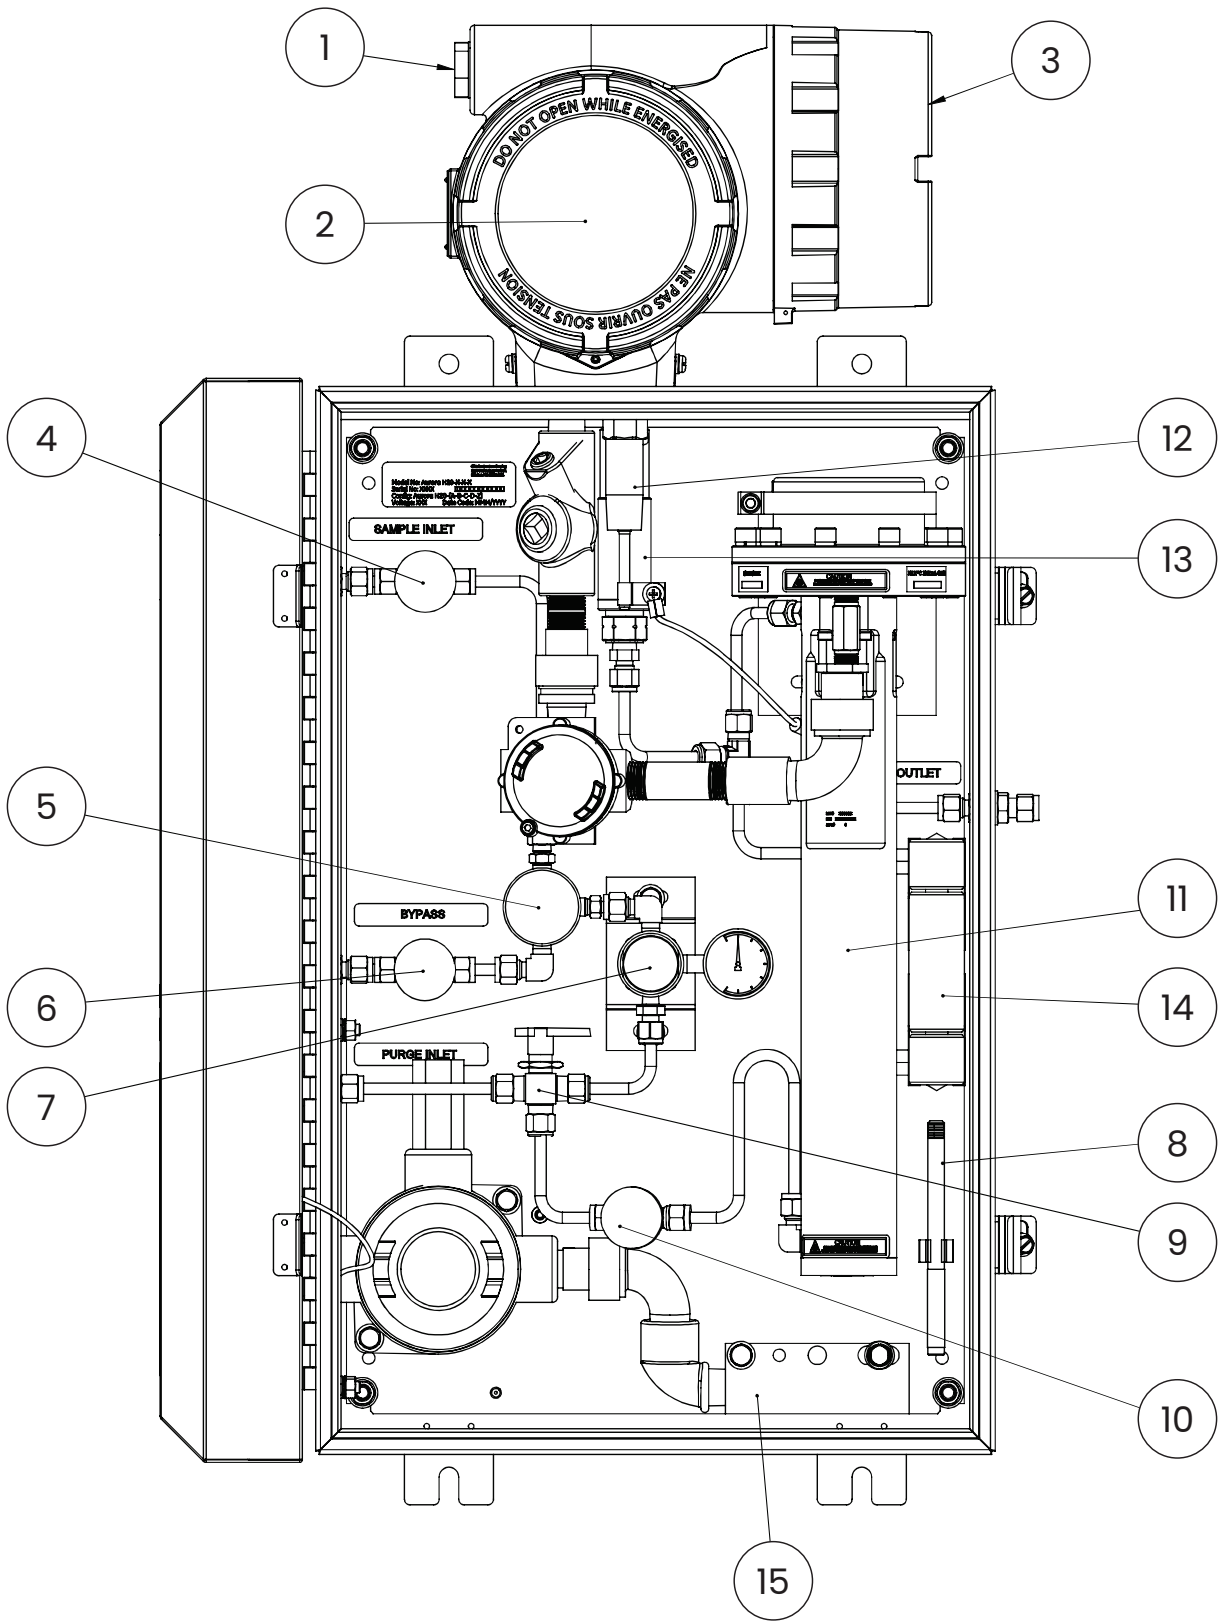

Figure 2: Aurora H2O system assembly with optional USA/CAN heater
**NOTE:** Refer to *Figure 2* below and *Table 1* on page 5 to identify your **Aurora** components.
**NOTE:** Refer to *Table 1* on page 5 and either *Figure 2* on page 3 or *Figure 3* on page 4 to identify your **Aurora** components.